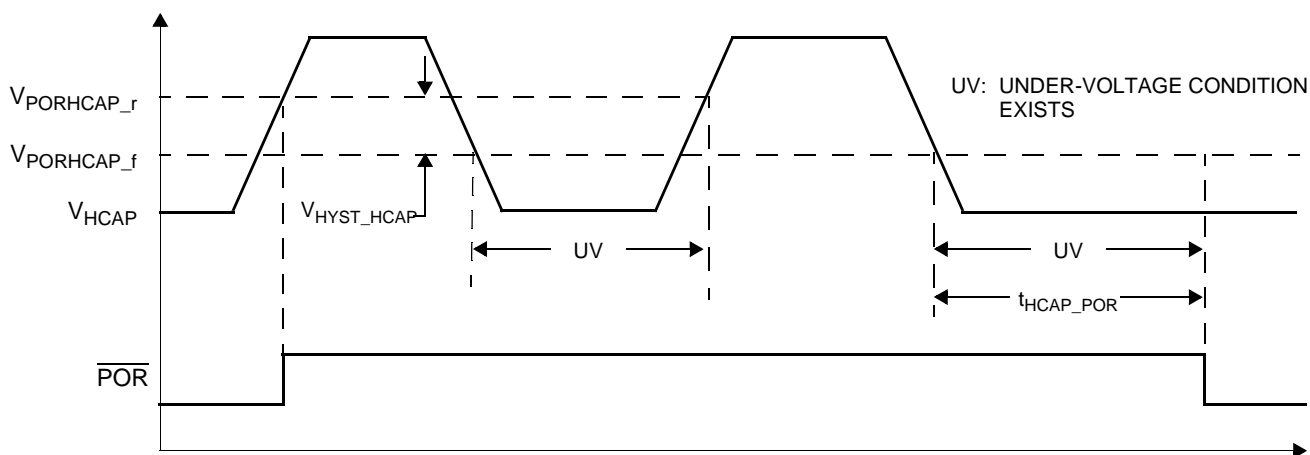

Figure 5. V_{HCAP} Under-Voltage Detection
| 83 | HCAP Under-Voltage Reset Delay (See Figure 5) $V_{HCAP} < V_{PORHCAP_f}$ to POR assertion | t_{HCAP_POR} | — | $880 / f_{OSC}$ | — | s | (7) |